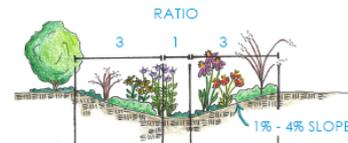

Figure 1. Profile of vegetated swale.
STEP 2: Dig. Dig out the shape of the swale. The deepest part of the swale should be about 3' deep. The width of the swale will depend on how much space you have on your site. A swale can be any size or length, but most are shaped like a trapezoid with the sides being three times wider than the width of the base. The slope of the sides should be between 1% and 4% (Figure 1).